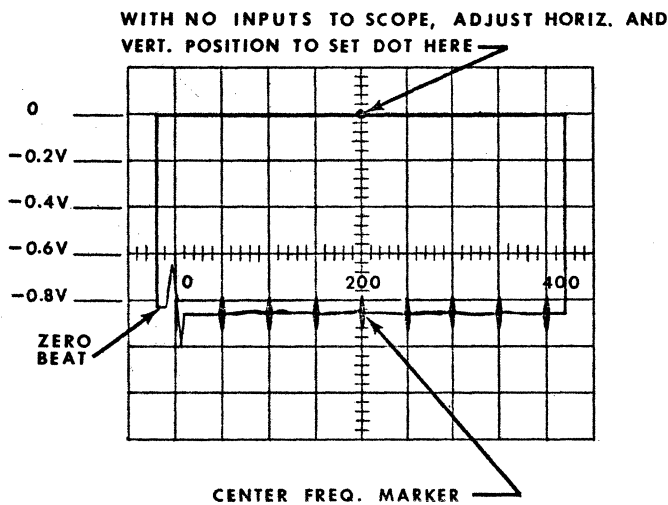
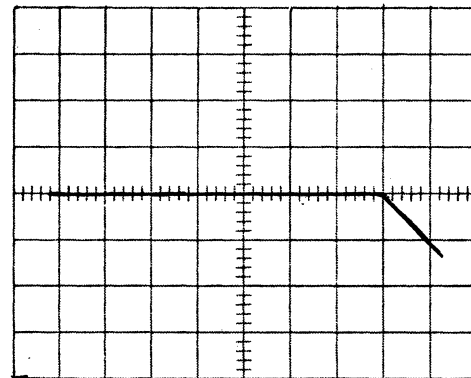

Figure 4-6. Detected RF With Markers
Figure 4-8. Linearity Reference Adj.
Adjust the scope to operate in an X-Y mode. Set the vertical sensitivity to 0.2 volt/div. Adjust the vertical position, horizontal position and horizontal sensitivity to obtain a scope pattern as shown in Figure 4-6.
Turn on 50 MHz harmonic marker. Adjust MARKER WIDTH clockwise and MARKER SIZE to produce a marker amplitude similar to that shown in Figure 4-6.
Display linearity is read directly from the display shown in Figure 4-6. Each marker must fall within 0.16 div of
Maximum sweep width is also read directly from the display of Figure 4-6 and equals ((N-1) times the marker frequency) where N = number of markers present on the display (incl. Zero Beat).
To identify the frequencies shown on the display of Figure 4-6, one frequency marker must be positively identified. The Zero Beat in the swept RF output looks distinctly different than a marker, is present when other markers are off, and can be used as a frequency reference. The first 50 MHz birdy to the right of zero marks a frequency of 50 MHz, the second indicates 100 MHz, and so on. The frequency of each marker shown on the display can be identified by referring to the Zero Beat.
ker and electrically center the scope trace. Using a medium sweep width, adjust the Centering control to center the 200 MHz birdy on the screen. Set the FREQUENCY control to 0 MHz and center the Zero Beat on the screen using the Sweep Width control on the Main PC Board. Set the front-panel SWEEP WIDTH control to maximum. Reset the FREQUENCY control for electrical zero. Set the oscilloscope horizontal sensitivity such that the Zero Beat and the 200 MHz birdy are exactly 4 divisions apart. Connect the oscilloscope vertical to TP 1. Adjust the Lin Ref control on the Main PC Board such that the trace "knee" bends exactly 3 divisions beyond the 200 MHz birdy (Figure 4-8). Reconnect the oscilloscope vertical to the SCOPE VERT OUT connector and align the Zero Beat with the second vertical graticule line. Adjust Lin Adj controls 1, 2, 3, 4, in order, so that the 250, 300, 350, 400 MHz birdies, respectively, fall on graticule lines as shown in Figure 4-6.
*Each marker module has a Size Adjustment control which is accessible from the side of the unit next to the marker module hold-down screw (refer to Figure 4-1). The control is adjusted until a saturated marker is obtained on the scope display when operating the unit as shown in the Typical Setup, Figure 4-6. A saturated marker is obtained when a further increase in the marker module Size Adjustment does not increase the marker amplitude on the scope display. Increasing the Size Adjustment beyond this point may result in spurious markers on the display.*